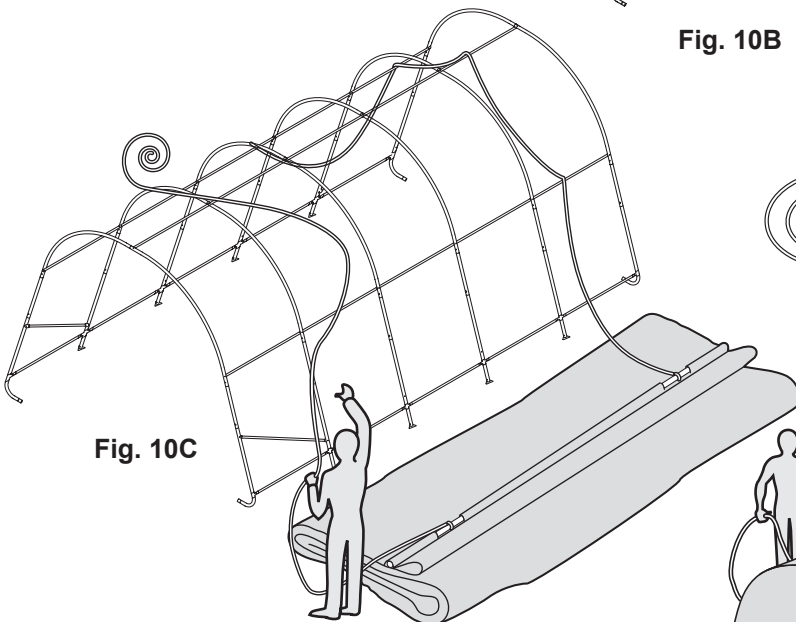

Fig. 10C
3. Tie the rope on each of the exposed pipes and throw the other end of the rope over the frame. Fig. 10C